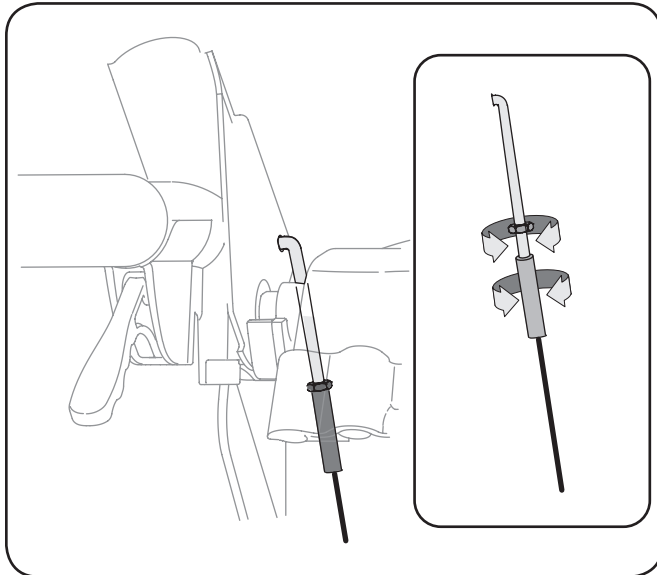

Figure 6-7
2. Thread the ferrule without turning the cable onto the “Z” fitting until there is no slack in the cable. See Fig. 6-7. Do not overtighten the cable. Hold the flats on the ferrule with pliers and tighten the jam nut against the ferrule.
4. Retighten the hex jam nut. See Fig. 6-7.